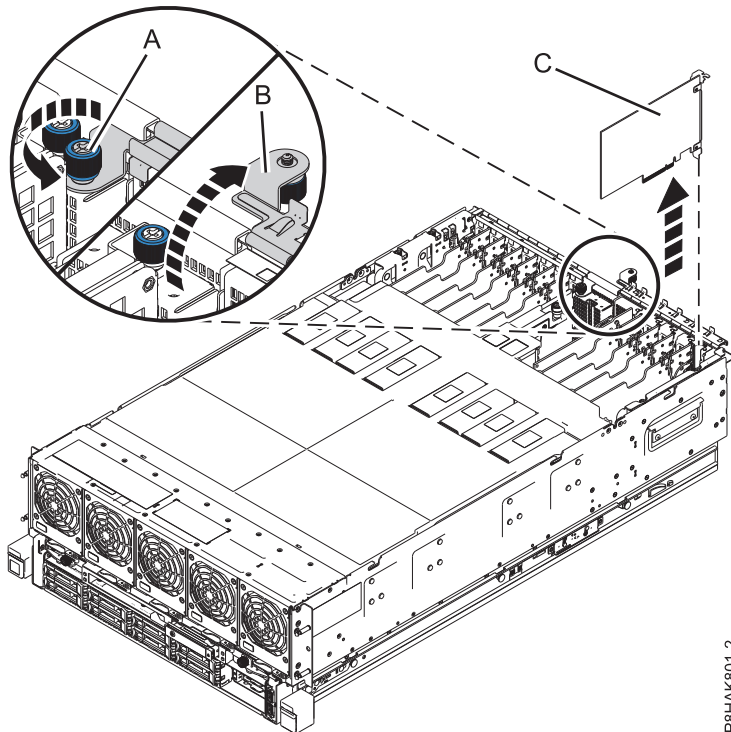

Figure 17. Removing a PCIe adapter from the 8408-44E or 8408-E8E system
- a. Unscrew the I/O retention bracket captive thumbscrew until fully loose. See (A) in Figure 17 on page 26.
- b. Open the I/O retention bracket by rotating it up and away from the system. See (B) in Figure 17 on page 26.
- a. Carefully grasp the adapter (C) by its top edge or tailstock, and remove adapter from the slot, as shown in Figure 17 on page 26.